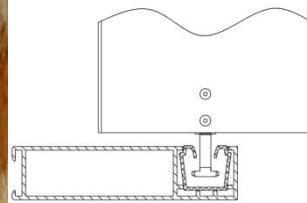

Fig. 9.
13. Place guiding profile inside the guide rail according to img. 9 and fig. 9, profile should be aligned with the upper Edge of guide rail